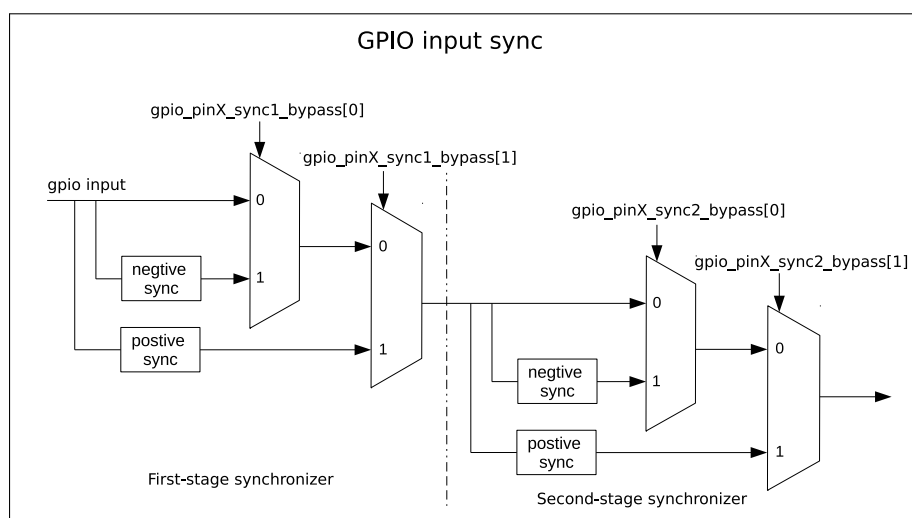

Figure 5.4-1. GPIO Input Synchronized on APB Clock Rising Edge or on Falling Edge
Figure 5.4-1 shows the functionality of GPIO SYNC. In the figure, negative sync and positive sync mean GPIO input is synchronized on APB clock falling edge and on APB clock rising edge, respectively.
- Set `GPIO_PINx_SYNC1_BYPASS` to enable input signal synchronized on rising edge or on falling edge in the first clock, see Figure 5.4-1.
- Set `GPIO_PINx_SYNC2_BYPASS` to enable input signal synchronized on rising edge or on falling edge in the second clock, see Figure 5.4-1.